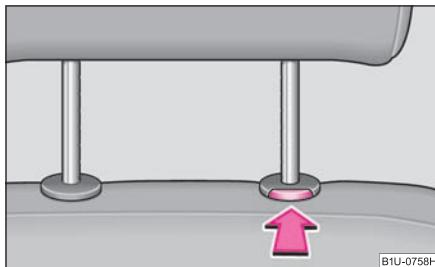

Fig. 58 Removing a head restraint
- Press the locking button in the direction of arrow ⇒ page 60, fig. 58 and pull the head restraint out.